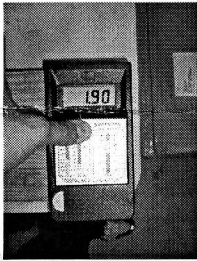

Fig. 1
- 3 Place the bottom of the indicator on a level part of the material to be investigated and push down gently for best results (see Fig. 1). For measuring moisture content in wood, the measurement should be made with the grain direction. A measurement made more or less transverse on the grain direction results in a lower indicator number. The direction of the unit is given by the "Floor Dot" logo on top of the unit - it needs to line-up with the grain direction.